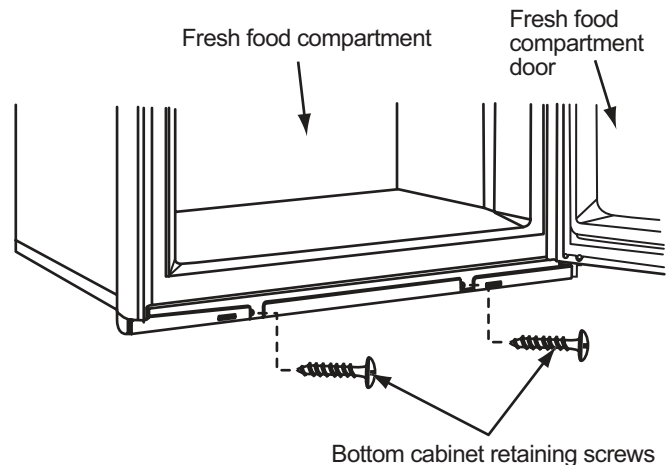

Figure 34. Bottom cabinet retaining screws.
7. Remove the two retaining screws from the bottom of the cabinet. See Figure 34, page 39.
3. Install the two retaining screws in the bottom of the cabinet. See Figure 34.